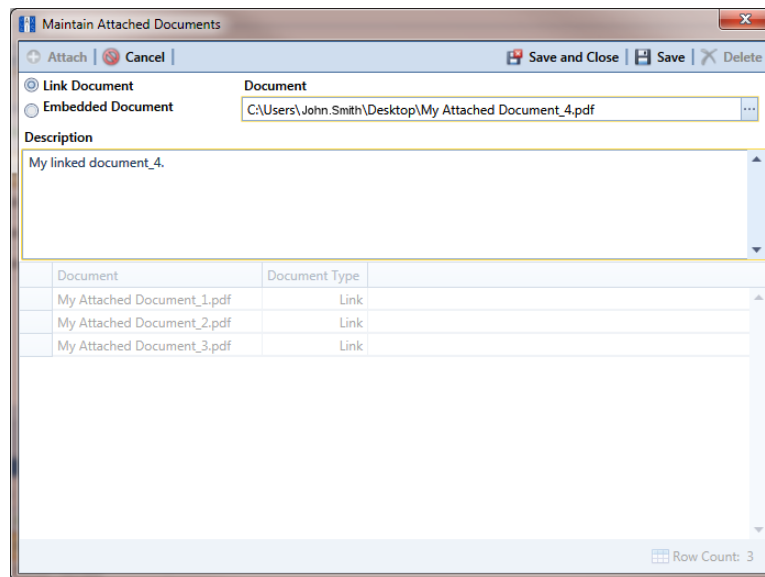

Figure 4-26. Maintain Attached Documents
- 6 When the *Maintain Attached Documents* dialog box opens, click  **Attach** and then select one of the following options (Figure 4-26, page 152):
- 7 If you selected *Link Document* in step 6 and want to link to a file on a local computer or company network, follow these steps (Figure 4-26):